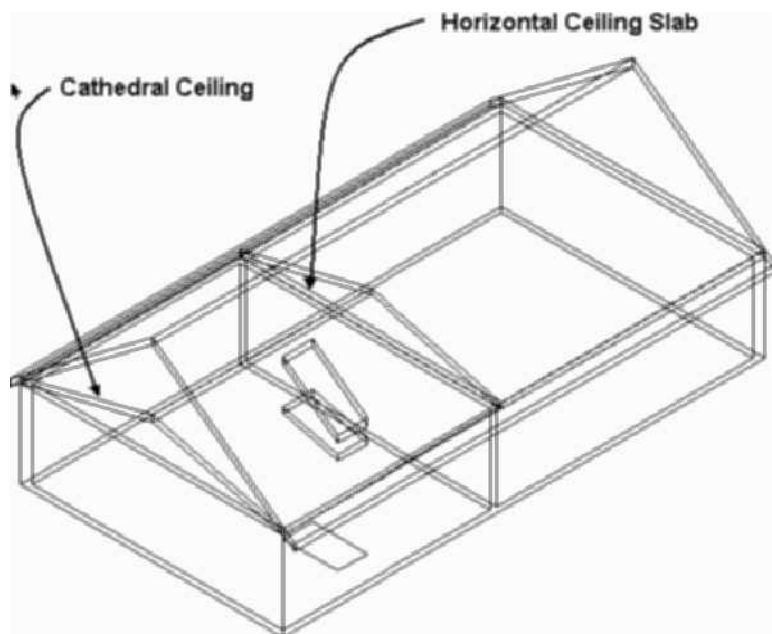

FIGURE 8.15 Slabs inserted in the drawing
13. Slabs representing cathedral and horizontal ceilings are shown in Figure 8.15. Save and close the drawing.